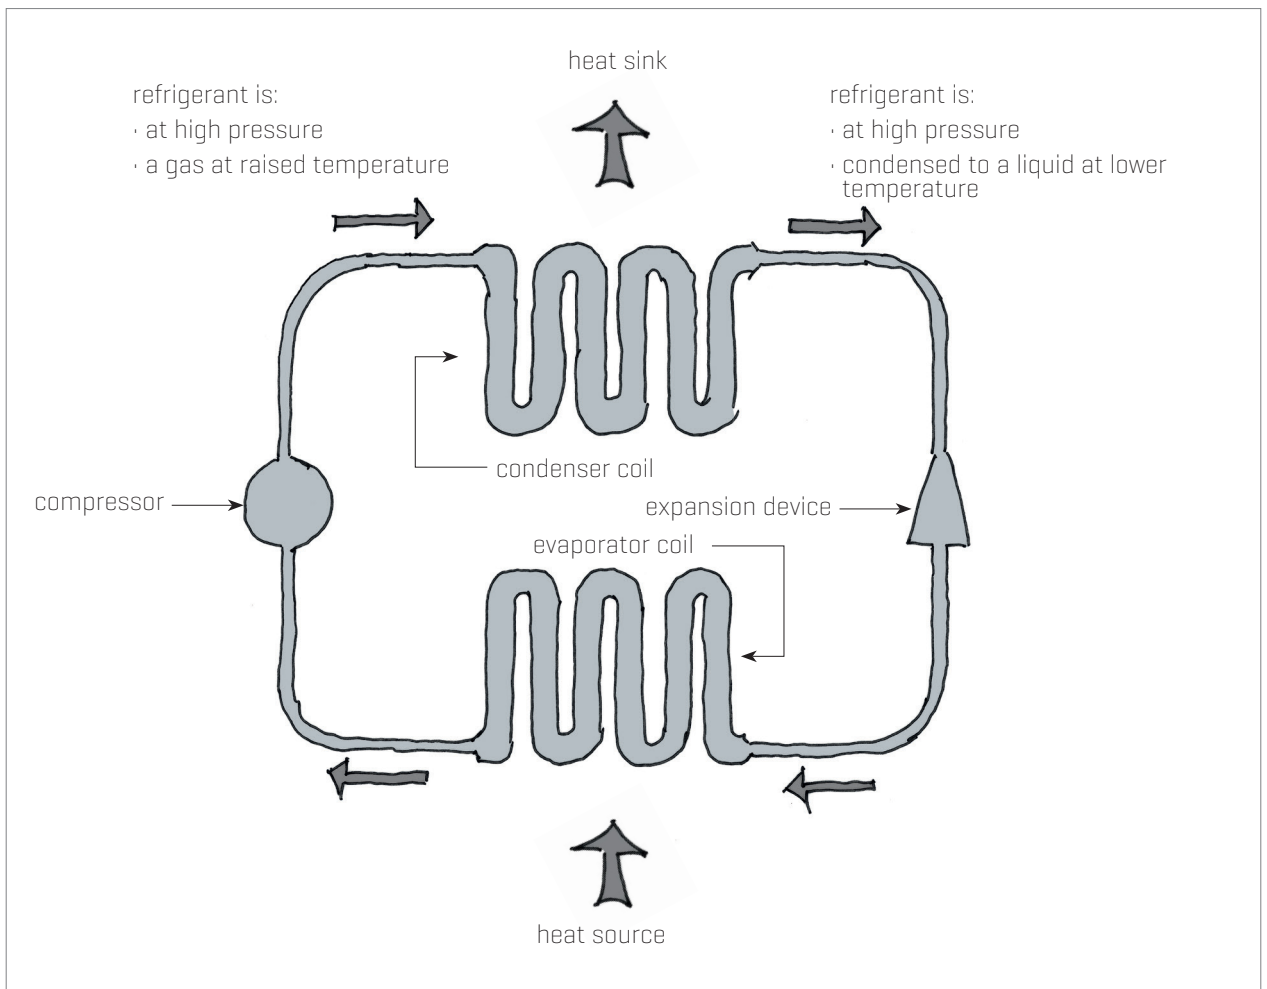

Figure 1. Basic refrigeration cycle for a heat pump.
3.1.1 The continuous cycle for the refrigerant (Figure 1) is: